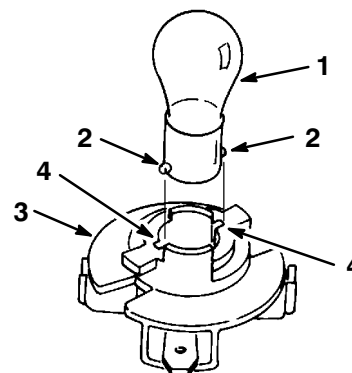

**Figure 49**
3. Rotate the bulb holder 1/4 turn counterclockwise and remove it from the reflector (Fig. 49).
2. The bulb holder has two tabs (Fig. 49). Align the tabs with the slots in the reflector, insert the bulb holder into the reflector and rotate it 1/4 turn clockwise until it stops.